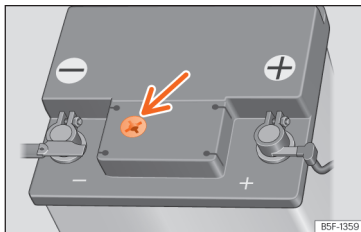

Fig. 244 Sight glass on the top of the 12 volt battery (schematic representation).
- Check the colour display in the sight glass on the top of the battery >>> Fig. 244.